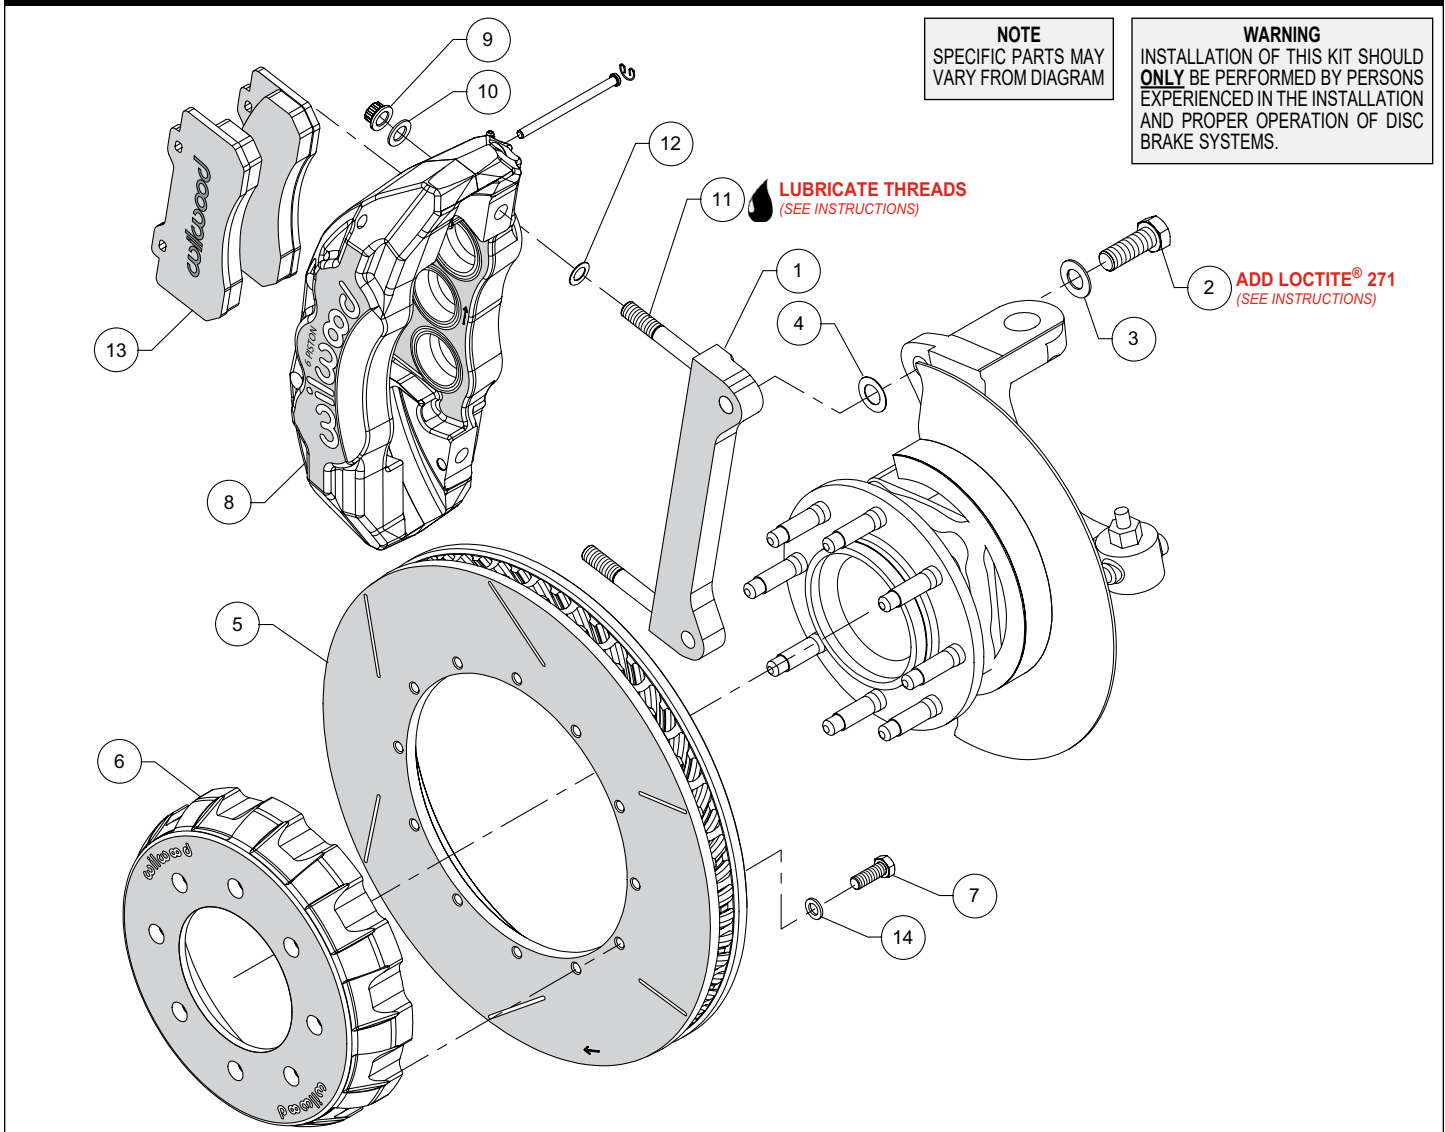
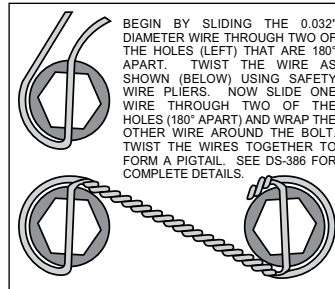

Figure 1. Typical Installation Configuration
Figure 3. Safety Wire Diagram
NOTE: Numbers in parenthesis refer to the parts list and Figure 1 on the preceding pages.
- The caliper mount bracket (1) should initially be installed with clean, dry threads on the mounting bolts. Orient the bracket as shown in Figure 1 and Photo 1, and install using bolts (2) and washers (3). Initially place one .024 thick shim (4) on each bolt between the bracket and upright, Figure 1. Temporarily tighten the mounting bolts. **NOTE:** *The bracket must fit squarely against the mount bosses on the upright.* Inspect for interference from casting irregularities, machining ridges, burrs, etc. Later, after the caliper alignment has been checked, the mount bolts will be secured using red *Loctite*[®] 271.
- Orient the rotor (5) and the hat (6) as shown in Figure 1 and Photo 2. Attach rotor to hat using bolts (7) and washers (14). Torque bolts to 25 ft-lb using a criss-cross pattern. For an added measure of security, the bolts may be safety wired using standard 0.032 inch diameter stainless steel safety wire as shown in Figure 3. Please refer to Wilwood's data sheet DS-386 (available at www.wilwood.com/Pdf/DataSheets/ds386.pdf) for complete safety wire installation instructions.
- NOTE:** *This kit contains distinct right and left hand calipers that must be mounted in a specific direction, as described below.* Lubricate the caliper mounting studs (11) with lightweight oil. Initially place one .032" thick shim (12) on each stud as shown in Figure 1 and Photo 3. Mount the caliper (8) onto the bracket (1) using lock nuts (9) and washers (10), Figure 1. Ensure that the caliper is mounted so that the largest pistons are at the rotor exit end of the caliper, in relation to the direction of rotor rotation. Temporarily tighten the lock nuts and view the rotor through the top opening of the caliper. The rotor should be centered in the caliper, Photo 4. If not, adjust by adding or subtracting shims (4) between the bracket and the upright. Always use the same amount of shims on each of the two mounting bolts. Once the caliper alignment is correct, remove the bracket mounting bolts (2) one at a time, apply red *Loctite*[®] 271 to the threads, and torque to 120 ft-lb.